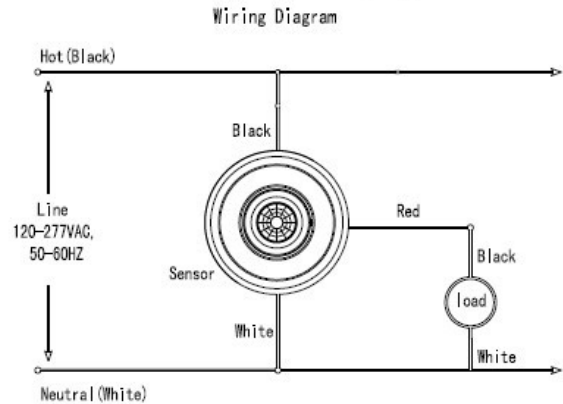

Fig. 2
4. Connect wires per appropriate WIRING DIAGRAM as follows: BLACK lead to LINE (HOT); RED lead to LOAD; WHITE lead to NEUTRAL. Twist strands of each lead tightly and, with circuit conditions, push firmly into the appropriate wire connector, screw connector on clockwise making sure that no bare wire shows below the connector. Secure each wire connector with electrical tape. (refer to Fig2)